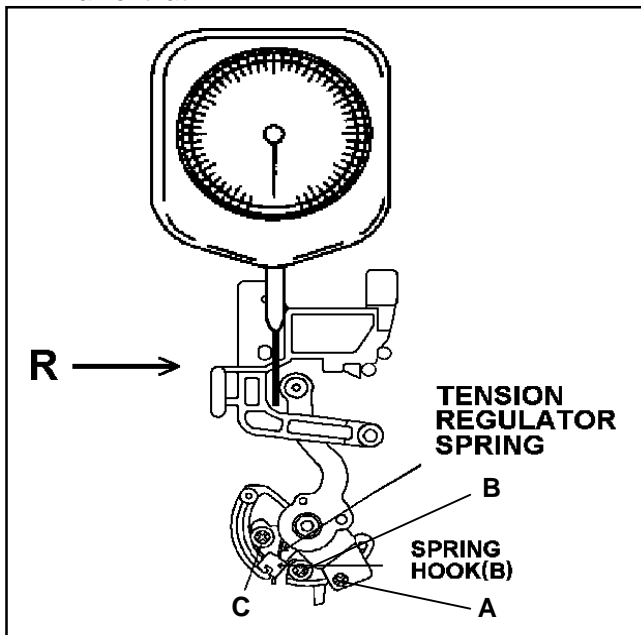

Figure 4-7
3. Push the tension post to the direction R by the tension gauge as shown in Figure 4-7 until the voltage at the test point becomes 1.2V (If means REV position).
5. After finish this adjustment, grew the screw (A), (B) and (C). The grew quantity at (B) is half of (A) and (C).